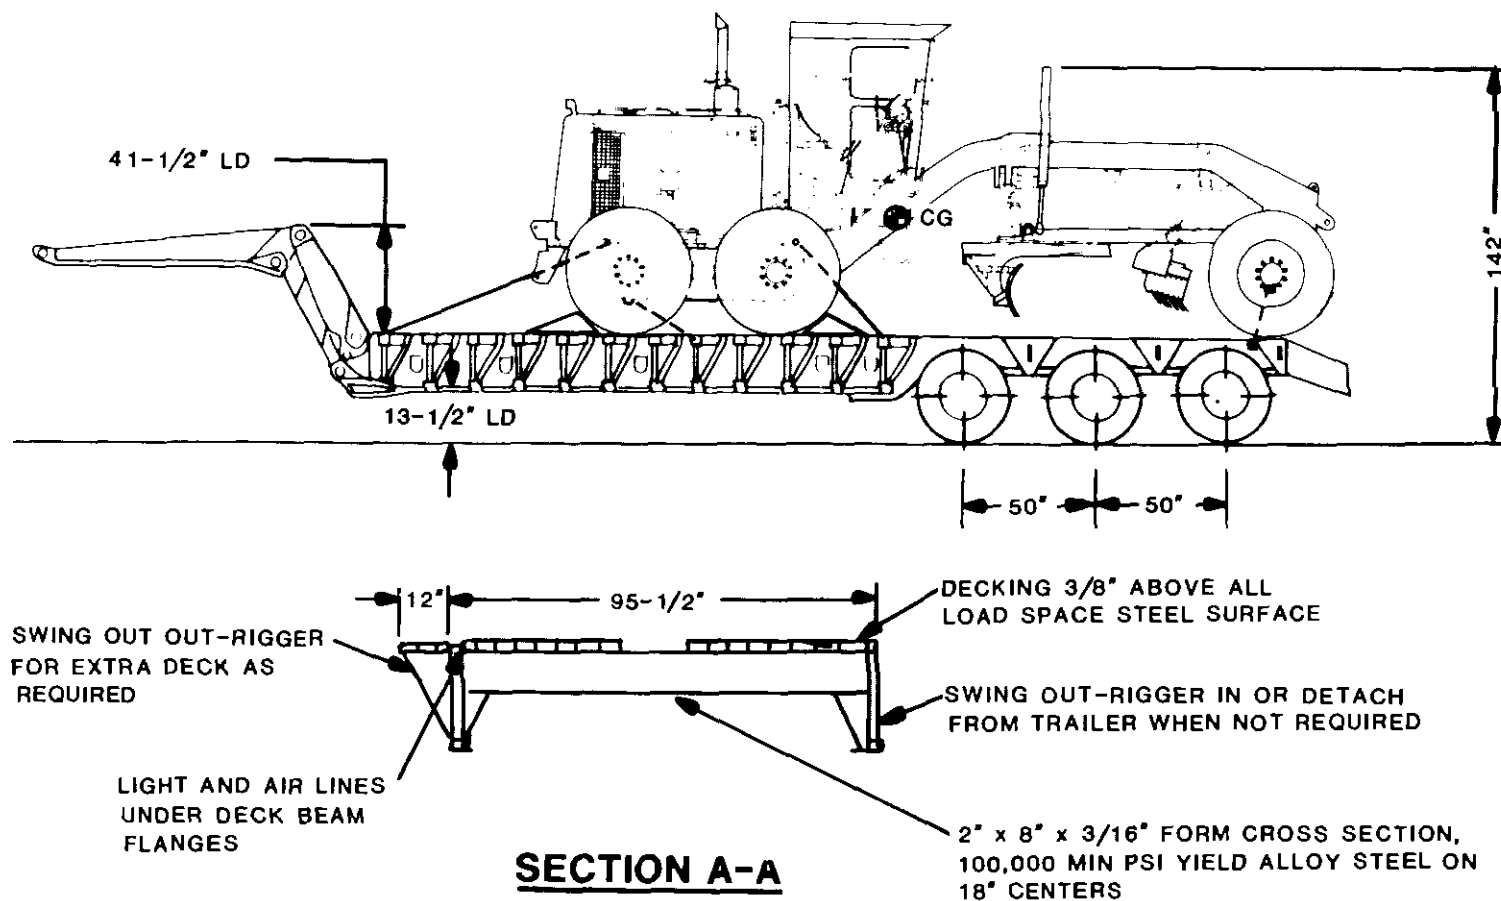

Figure 5-1. Model 130G grader loaded on an M870 semitrailer.
c. *Loaded Characteristics.* The model 130G Types I and II graders are slightly larger than the model 130G MIL grader. The model 130G grader loaded on the M870 semitrailer is described in figures 5-1 and 5-2.
(1) The model 130G grader may be driven to the tiedown position on the M870 semitrailer, or it can be winched on.
(2) The blade and scarifier should be in the full up position during loading. Before the blade is lowered, it should be turned so it fits within the width of the grader. Parking shoring should be placed under the blade to protect the semitrailer bed.
(3) After the grader is placed at the tiedown position, the transmission must be placed in the neutral position and brakes set, if appropriate. Doors should be wired shut to preclude opening en route.